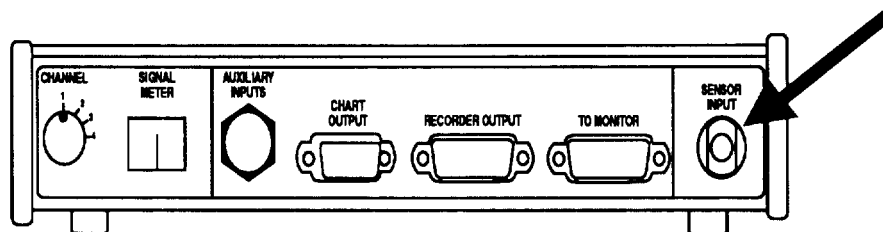

Figure 2
3. Attach the connector to the SENSOR input jack on Model 2700 EdenTrace recorder. See figure 2.